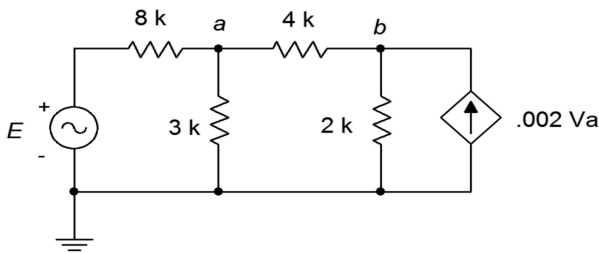

Figure 6.25
56. Given the circuit in Figure 6.25, determine the current flowing through the 3 kΩ resistor if the source $E = 25\angle 33^\circ$.
57. Given the circuit in Figure 6.25, determine v_{ab} . Assume the source $E = 15\angle -112^\circ$.